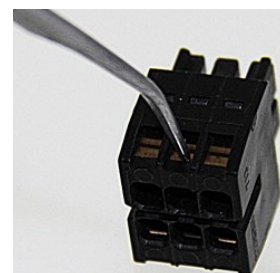

Figure 416: Power
1. Using the power cord, attach the power supply to the power terminal as diagrammed in Figure 416.